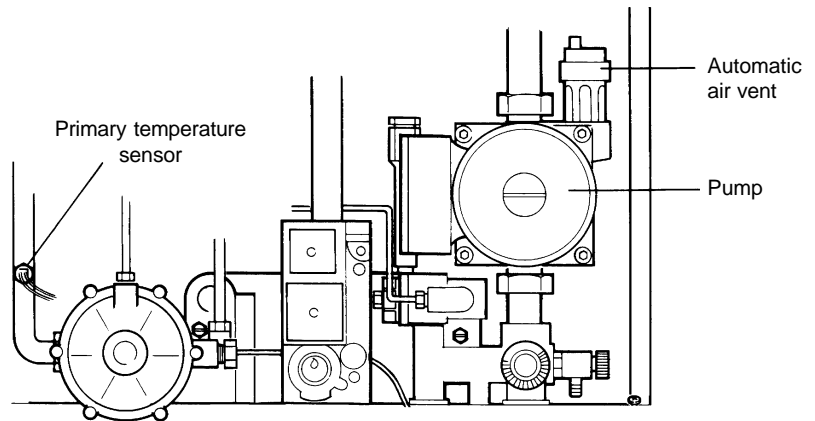

Fig. 30
8.24 PRIMARY TEMPERATURE SENSOR - Fig. 30
8.25 AUTOMATIC AIR VENT - Fig. 30
8.26 PUMP - Refer to Fig. 30